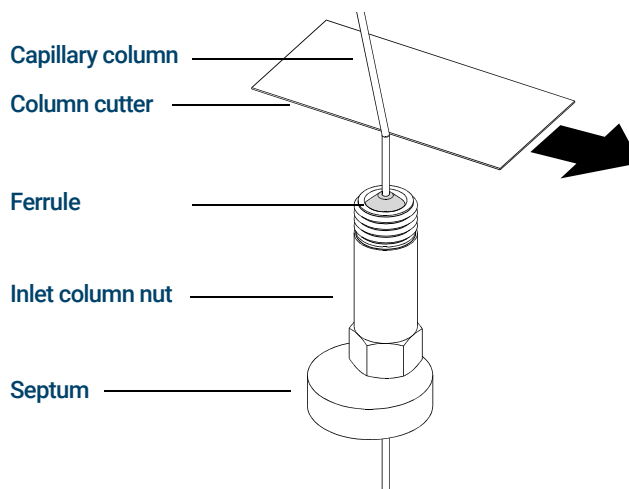

Figure 2. Preparing a capillary column for installation (standard inlet column nut shown)
- 2 Wearing clean gloves, slide a septum, column nut, and conditioned ferrule onto the free end of the column. **Figure 2** shows a standard inlet column nut, but the nut is similarly positioned for a self-tightening column nut. The tapered end of the ferrule should point away from the column nut for a column attachment to an inlet.